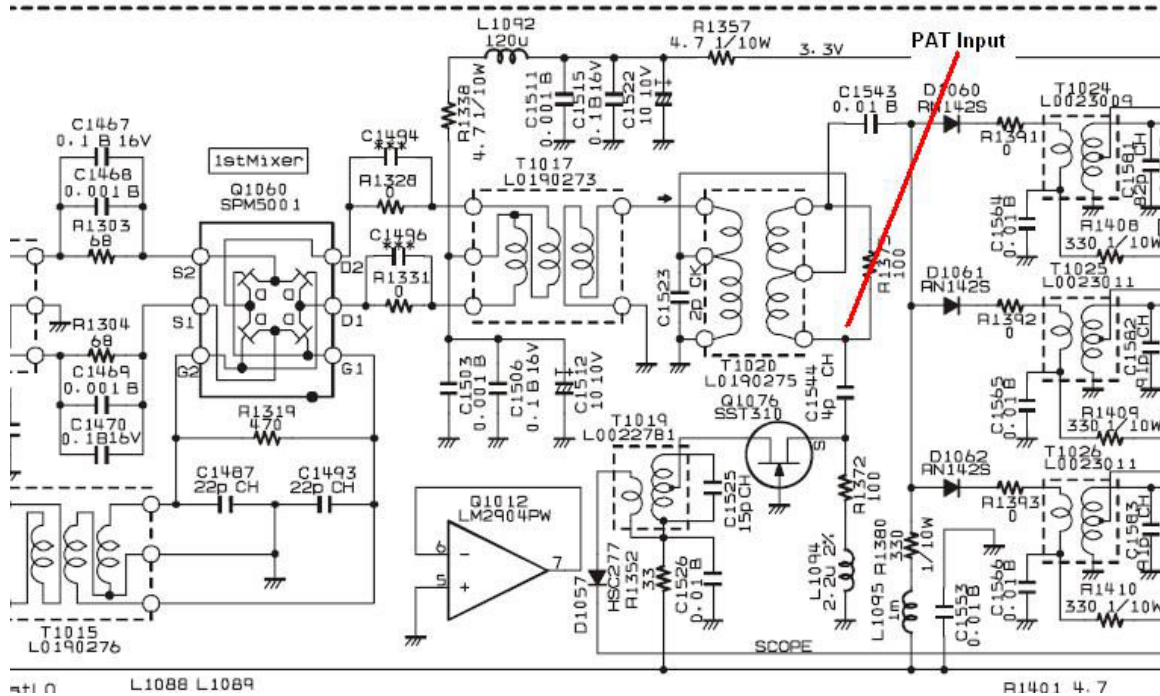

Fig 3 – Panadaptor input connection at T1020/C1544
- 6 The RF signal is mixed up to 69.45MHz in Q1060, which is followed by matching transformers and a tapping point for the optional Yaesu DMU2000. This tapping point feeds an RF signal to the band scope function – however, the composite signal used also includes the Tx signal. To avoid picking the Tx signal, the PAT connection is taken before the DMU buffer stage (Q1076) at the output of T1020 - see Figs 3 and 4. Because this is before any IF filters, the signal bandwidth will still be wide here.